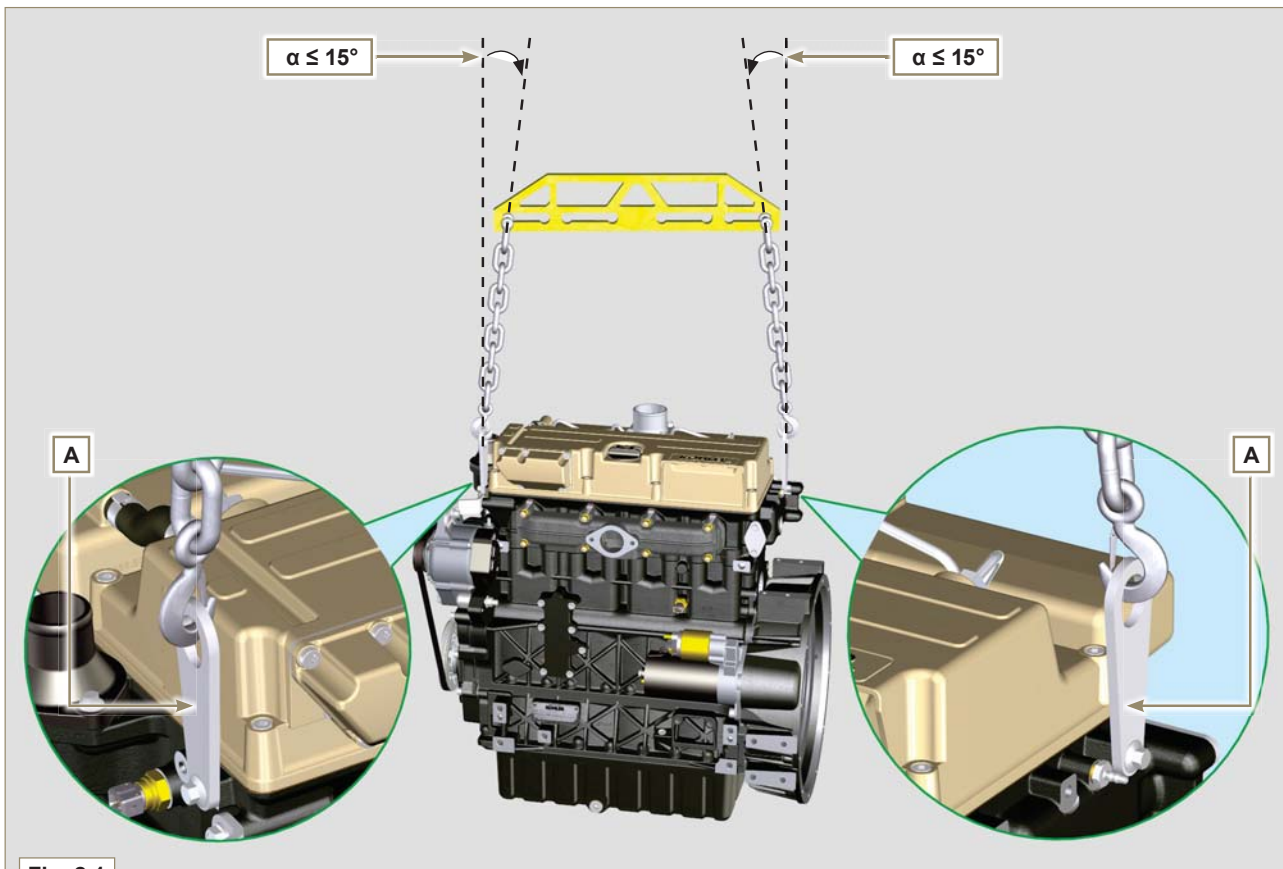

Fig. 2.1
- Only use the eyebolts **A** installed by **KOHLER** to move the engine (**Fig. 2.1**).